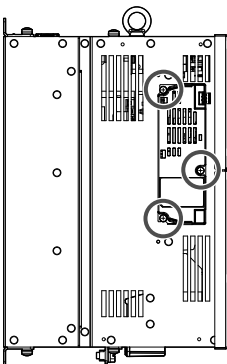

Figure 17 Location of Screws
7. Use a Phillips screwdriver (M4) and the screws included in the option package to fasten the option to the unit in the three locations shown in **Figure 17**.